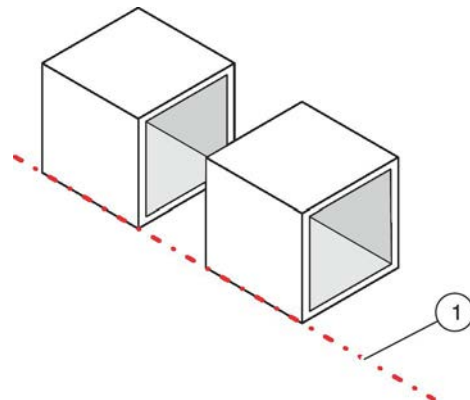

Fig. 15: Aligning casing units
- ▶ Align the casing units so that they are flush with one another ( Fig. 15 /1).